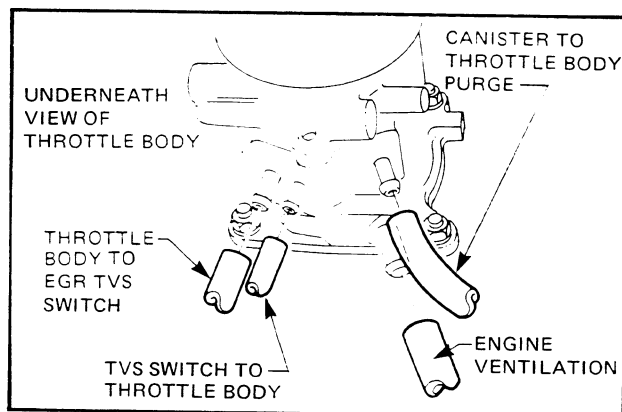

Figure 6C-78
6. Disconnect throttle position switch wiring harness connector and, if fitted, idle load compensator power feed wire. Refer Fig. 6C-79.